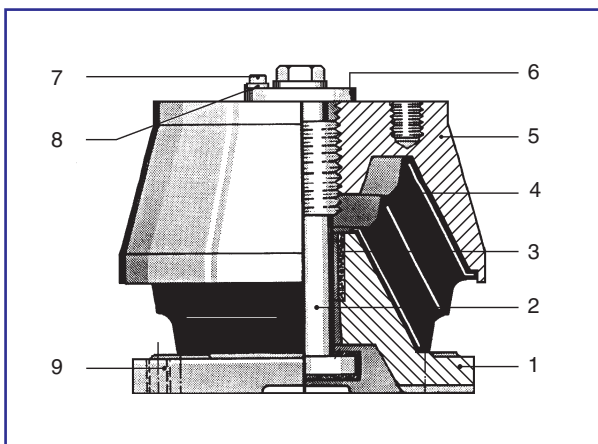

Fig 1 Conical element
- 1) Fit the conical elements to the bracket of the base frame by means of four bolts screwed into the tapped holes on the top casting (5), see fig 1.
- 2) Remove fixing bolt (7), spring washer (8) and top lock ring (6) from the conical element, see fig 1.
- 8) Turn the internal buffer (2), see fig 1 to check that it can be moved freely.
- 9) Care must be taken, during levelling of the installation, to ensure that individual mountings are not overloaded. The variation in laden height should not exceed 2 mm and should ideally be less. The laden height can be measured between top and base casting at H, on two sides (see fig 1).